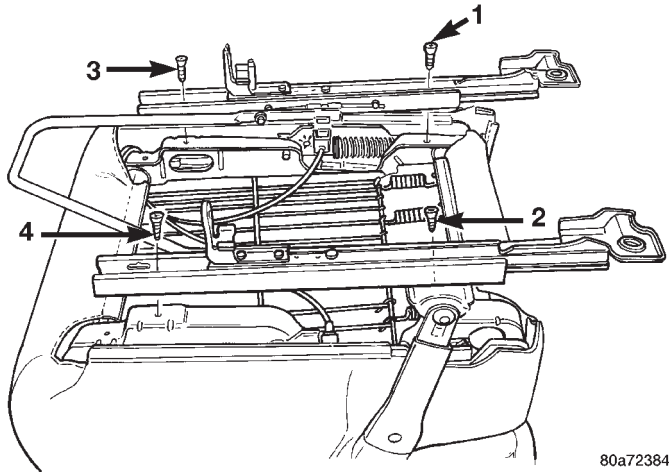

Fig. 2 Bucket Seat Track
- (1) Position the seat track on the frame.
- (2) Install the unthreaded stud retainers on the towel bar.
- (3) Install the torx bolts attaching the seat track to the cushion frame. Tighten the bolts in sequence (Fig. 2) to 24 N·m (17 ft. lbs.) torque.
- (4) Install seat.